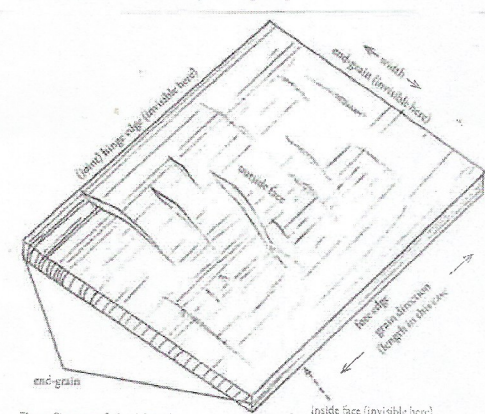

Fig. 11. Six parts of a book board
First, a board is cut out of the middle, then each half is "flat sawn." These boards would be tangentially sawn on the outside, becoming quartered towards the middle. In America today, the great majority of these boards could pass as vertical grain (VG) or quarter-sawn, for instance, for flooring. If possible, we would like straight-grained wood cut with (parallel to) the grain. The end-grain should have growth-rings perpendicular to the wide surface of the board; see Fig. 11. These boards are marked A+.